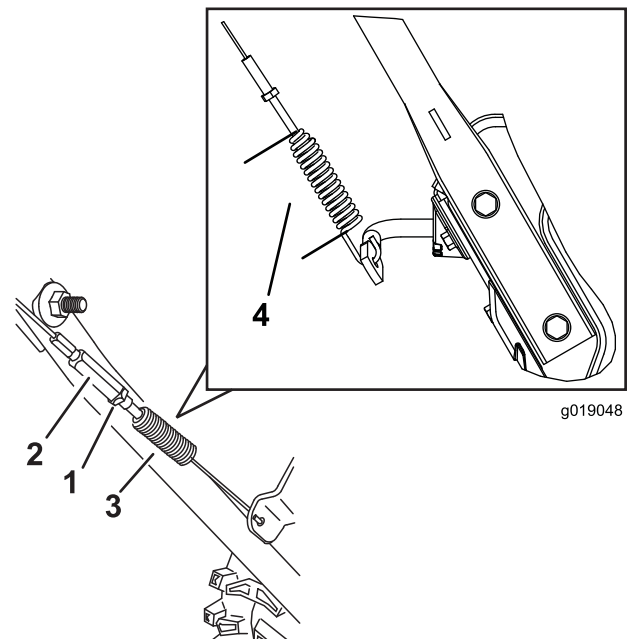

Figure 37
3. Loosen or tighten the turnbuckle to adjust the spring length to 5.5 cm (2.18 inches) as shown in Figure 37.
4. Tighten the jam nut (Figure 37), ensuring there is slight tension on the cable.